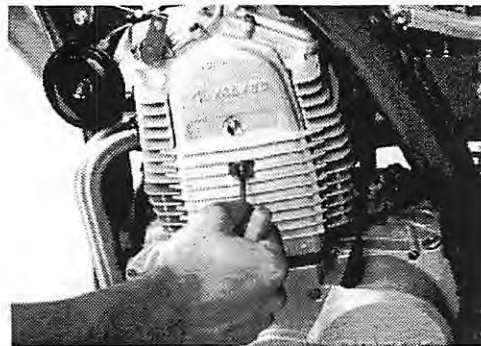

Figure 4.12
3. Remove timing belt cover with a 5 mm Allen wrench. (Figure 4.12)